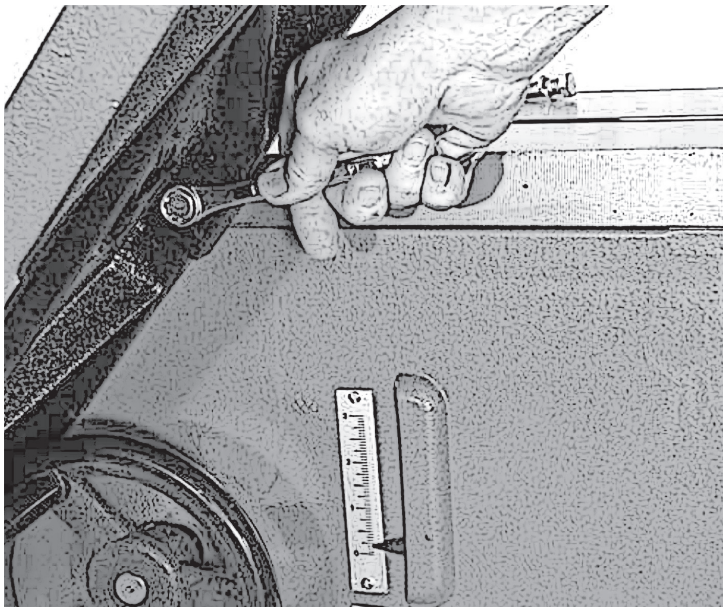

Fig. 10 Installing extension wing.
4. Raise the wing on one side and make sure it is flush with the table edge, then tighten the first bolt. See Figure 10.